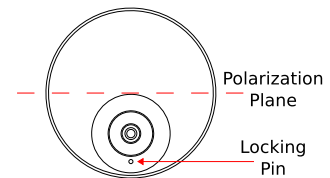

Figure 2.2: Top view of radar antenna and its polarization plane.
- Figure 2.2, shows the polarization plane of the signal emitted from the radar antenna. If the WaveGuide radar is mounted close to a large vertical wall, then the radar should be mounted such that the polarization plane is parallel to the wall. That is to minimize the effect of the wall on the propagation of the signal. Nevertheless, the horizontal distance between the radar and the wall should comply with the previous criteria.